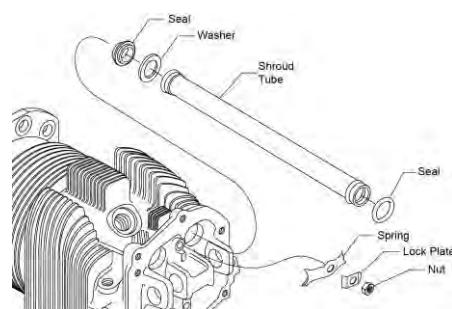
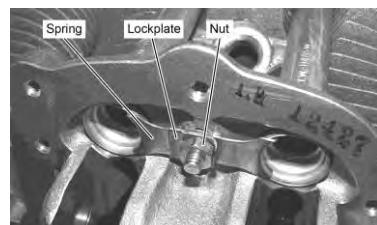

Figure 21
Figure 22
- (4) On each shroud tube, assemble the other shroud tube oil seal over the outer end of the shroud tube (Figure 21).
- (5) Insert each shroud tube through the hole in the rocker box and seat the end firmly into the crankcase.
- (6) Install the spring, lockplate, and nut (Figure 22) in the rocker box to hold both shroud tubes.
- (7) Torque the nut to 96 in.-lb. (11 Nm).
- (8) Bend the lockplate against the nut. If necessary the nut can be tightened to the next aligning position with the lock tab.